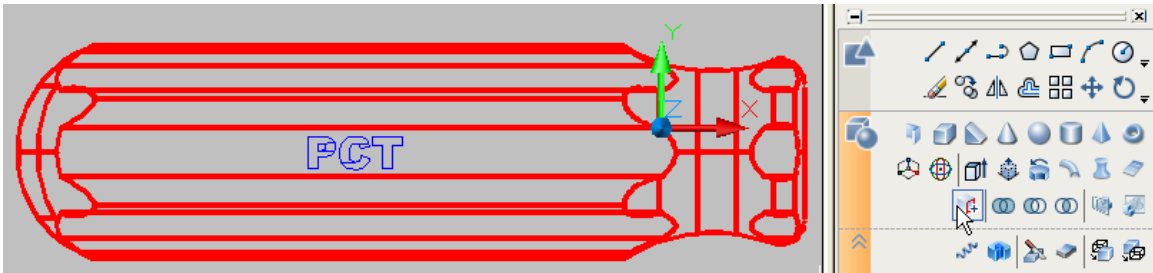

Figure 7
7. Move the cursor arrow to the area of the Make 3D control panel in the Dashboard as shown in Figure 7 and select Imprint. Click on the solid and then each of the polylines. (You may elect to keep the polylines for future use or delete them.)